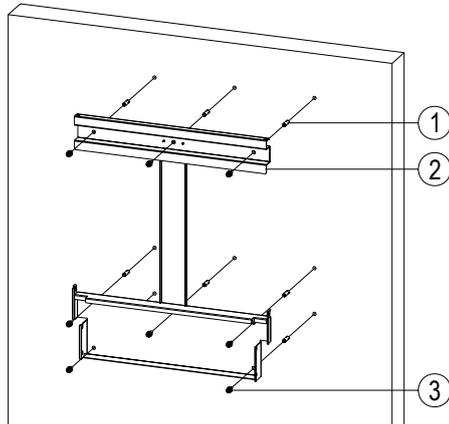

Figure 3-6 Secure the mounting bracket
(2) Drill holes at the marked positions with a 10mm (0.4in.) drill and put the **M8 expansion tubes**① into the holes; Fasten the **mounting bracket**② with the **M8x25 assembling bolts**③ in the accessory kit. Figure 3-6.